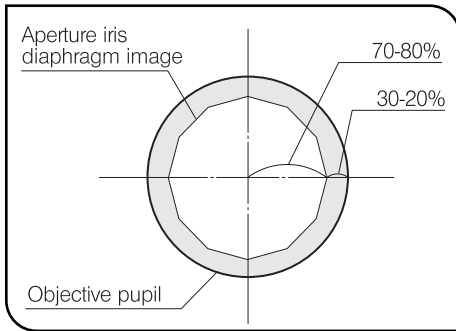
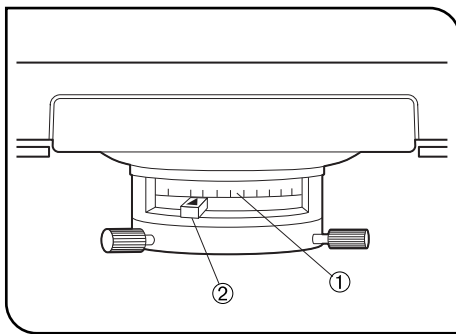

Fig. 17
Fig. 18
## 2 Aperture Iris Diaphragm (Figs. 17 & 18)
Remove the eyepieces and look into the eyepiece sleeves. When the aperture iris diaphragm image is observed as shown in Fig. 17, adjust it to an optimum aperture using the aperture iris lever ②. (Fig. 18)
Adjust the aperture iris lever ② to the aperture scale ① on the condenser. As the aperture iris lever is wide, align its center with the desired scale. (Fig. 18)